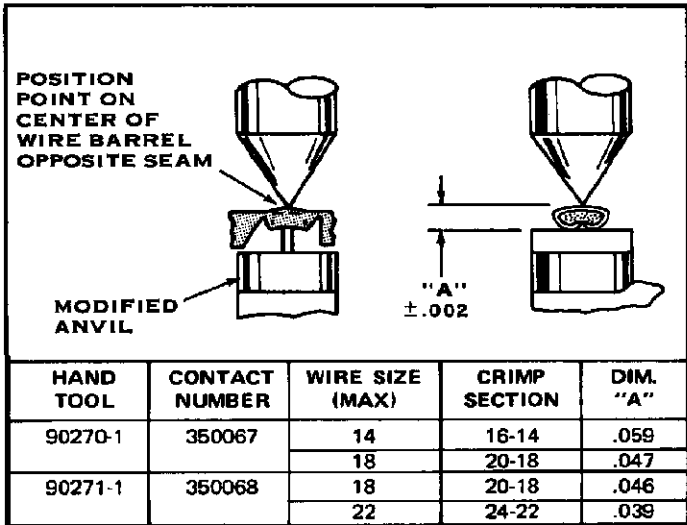

FIGURE II-2
This inspection incorporates the use of a micrometer with a modified anvil as shown in Figure II-2. AMP does not manufacture or market these gages. We recommend the Crimp Height Comparator RS-10195-L which can be purchased from:
1. Select one of each of the contacts and the maximum wire size for each from the chart in Figure II-2.
3. Using a Crimp Height Comparator, measure each wire barrel crimp height as shown in Figure II-2. If the crimp height conforms to that shown in the chart the tool is considered dimensionally correct. If not, return the tool to AMP for evaluation and repair. (See Paragraph II-3).
1. Determine the maximum wire size and the applicable contact for the tool. See Figure II-2.